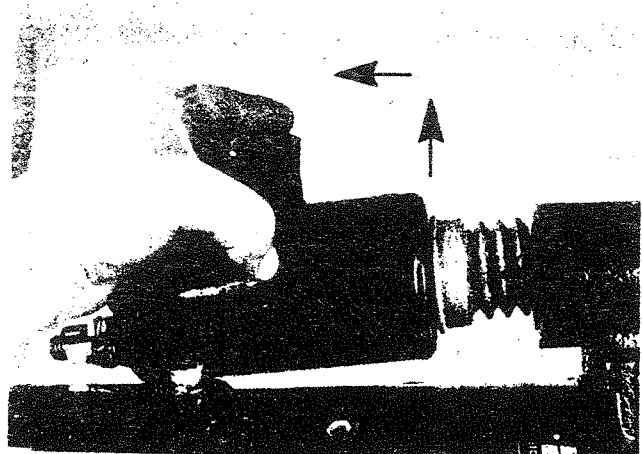

Figure 4
- 2.5 On MC, ME, and MX motors, pull the switch away from the shift housing and turn the switch so the mounting legs face away from the field ring. Lift the switch up and pull it away from the shift housing. Figure 4.